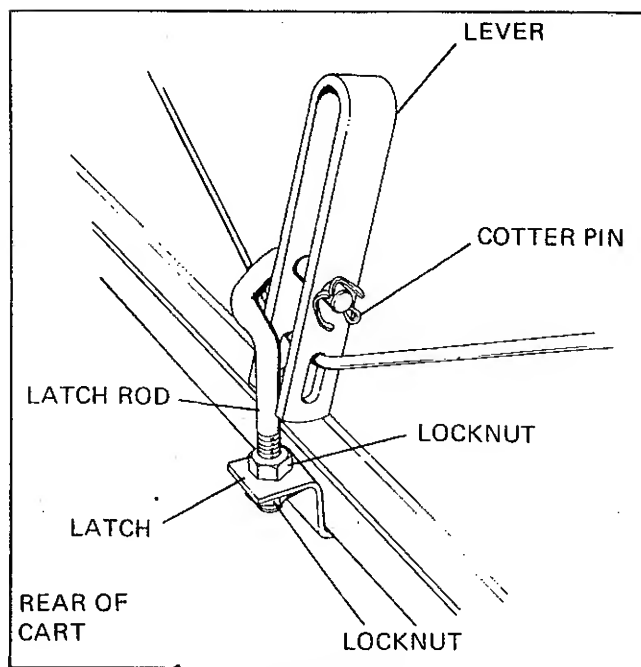
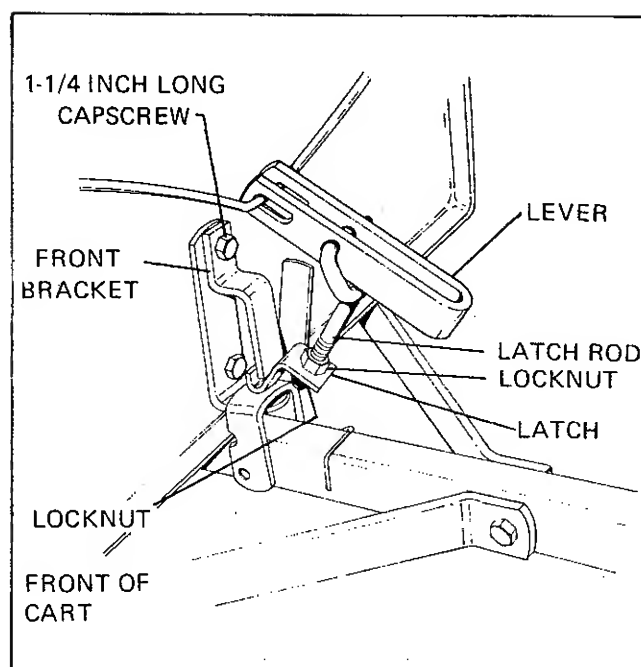

FIGURE 20
FIGURE 21
9. Secure bracket to front of cart with 1-1/4 inch long capscrew (Figure 21).
11. Insert rear latch rod through lever holes and secure it with a cotter pin (Figure 20). Install locknut, latch, and locknut on latch rod. With lever in closed position, adjust latch until it is securely hooked under cart. Repeat procedure for front side with latch tight under bracket (Figure 21).